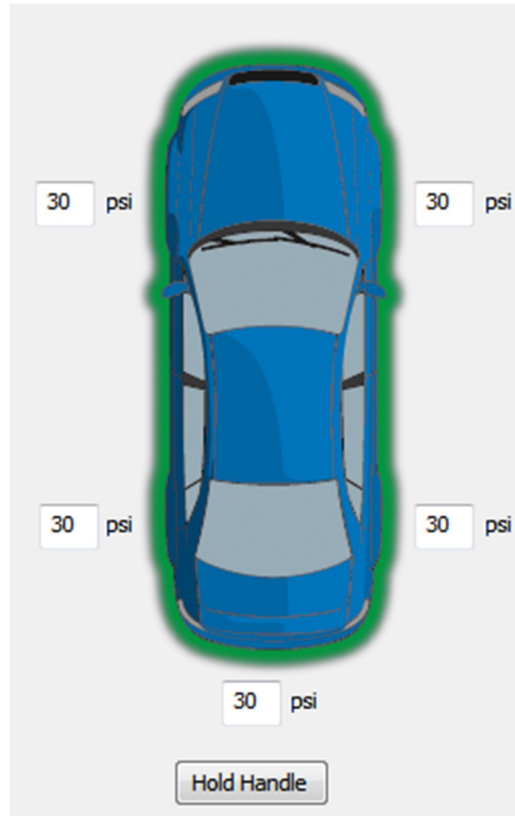

Figure 3.18: KES Demonstrator: Key Fob within Handle Hold Range
7. **Handle Hold Behaviour:** Whilst the Key Fob is within the pre-configured handle hold range (determined by RSSI), a green glow is displayed around the vehicle, see Figure 3.18, and pressing the **Hold Handle** button on the KES Demonstrator unlocks the vehicle.